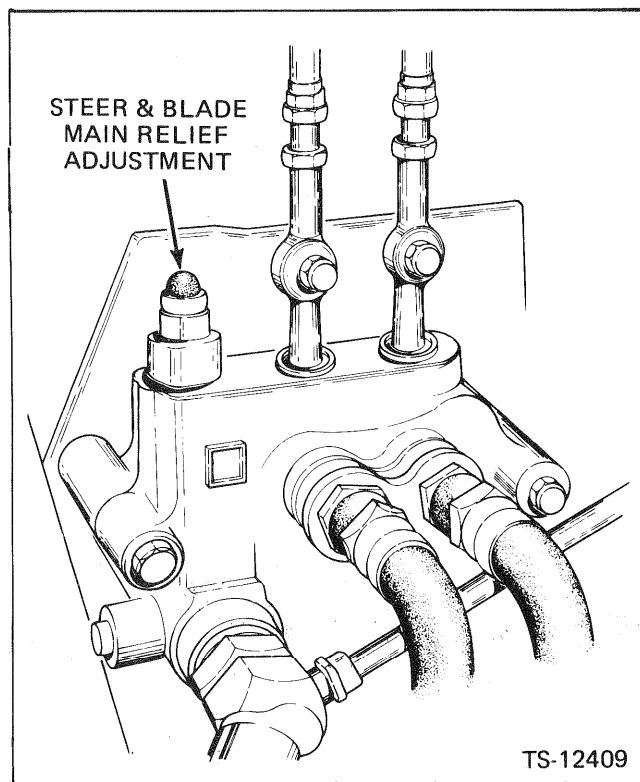

Fig. 11-3 Adjust Pressure — Main Relief Valve
5. Put the BLADE into its full up position and hold. Adjust the relief valve on the steer and blade control valve by removing the acorn nut on the bottom of the valve, loosening the jam nut and adjusting the set screw. Fig. 11-3.